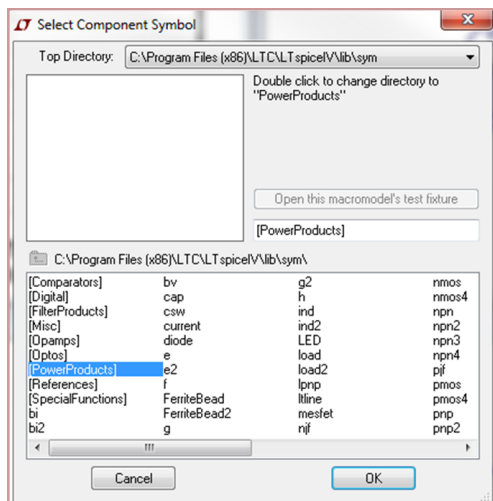

Figure 8. Where to find the LT1083-5
- For this prelab we will use the LT1083-5 regulator instead of the MC7805. This is because there is a model for the LT1083-5 regulator in LTSpice. This is a 5V regulator with much better specs than the MC7805 but it will still let us observe the general behavior of linear regulators. This regulator is found in the "PowerProducts" folder as shown in Fig. 8.